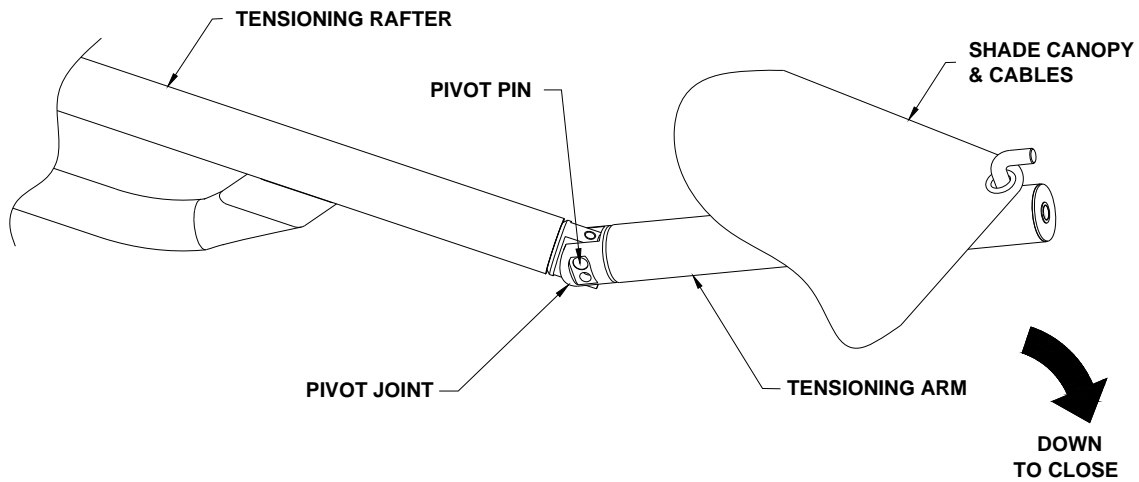

Figure 17: Tensioning Arm in 'Open Position'
4. Carefully push up tensioning arm into the 'Open Position'. See Figure 17.
3. Look to make sure pivot pin is in the pivot joint of all tensioning arms. See Figure 17.